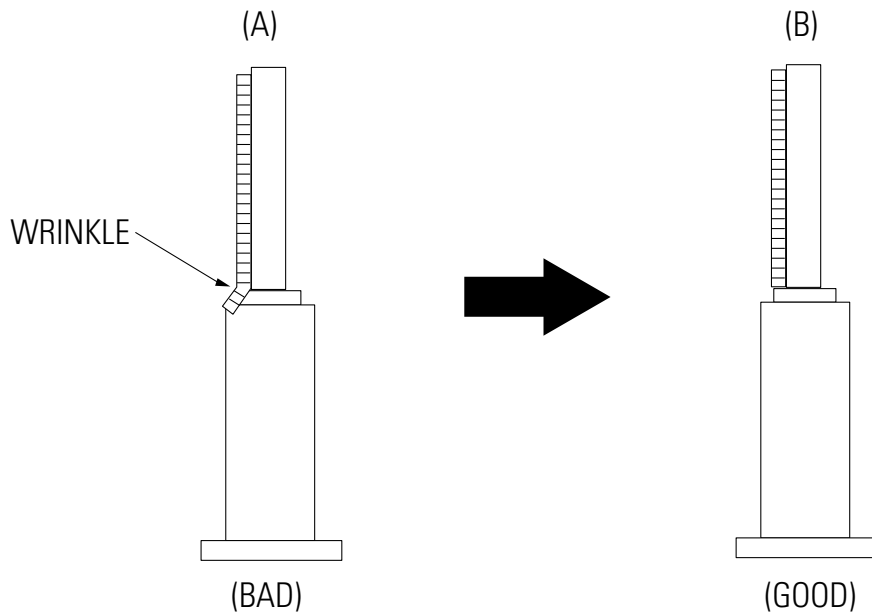

Fig. 3-9 Tape Guide Check
- 2) Confirm that there is no curl or wrinkle at the lower flange of tape guide as shown in Fig. 3-9 (B).
- 3) If a curl or wrinkle of the tape occurs, slightly turn the screw (A) tilt adjust on the AC head ass'y.